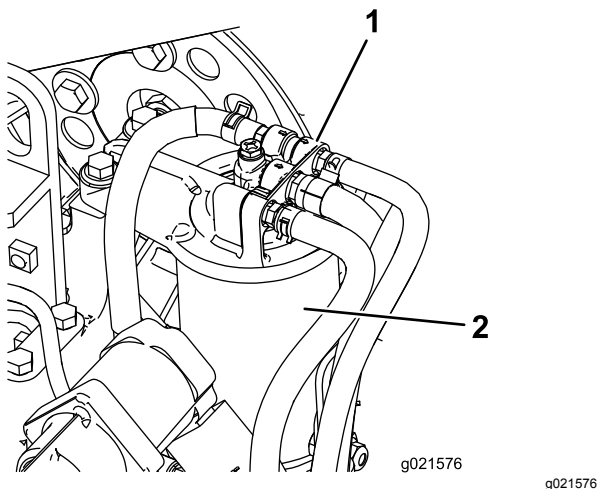

Figure 76
1. Clean the area around the fuel filter head (Figure 76).
2. Remove the filter and clean the filter head mounting surface (Figure 76).